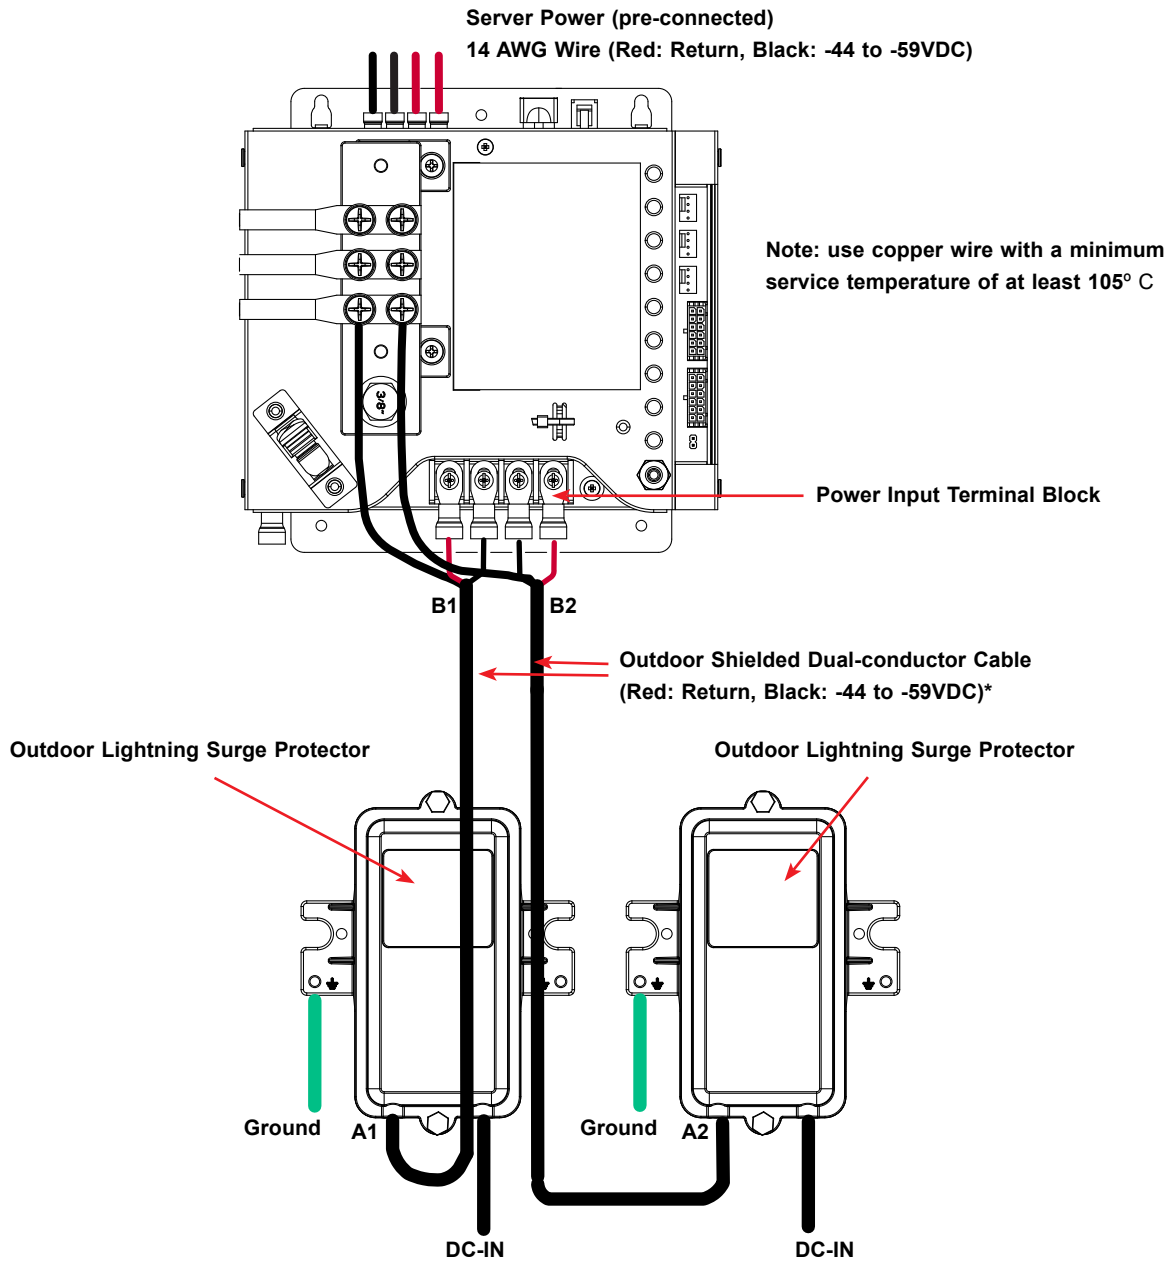

Figure 2-10. Power and Lighting Protector Connections
7. Refer to Figure 2-10 to locate the Power Input Terminal Block and remove the plastic protective cap.
The SPD may be installed either inside or outside of the enclosure, depending on the specification of the SPD. Figure 2-10 shows the cabling of an outdoor SPD.
The cabling between the SPD and the power and control board should be less than three feet in length. This is the A1 to B1 cable and the A2 to B2 cable as shown in Figure 2-10.